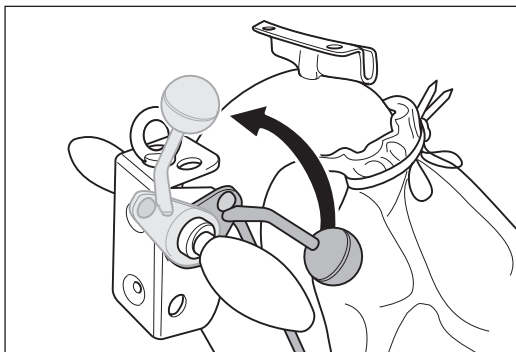

Fig. 12 Lift the sanding drum off the floor by turning the lowering lever at the handle upwards.
- 1 Lift the sanding drum off the floor by turning the lowering lever at the handle upwards (Fig. 12).
- 1 Before switch off the machine lift the sanding drum off the floor by turning the lowering lever at the handle upwards (Fig. 12).